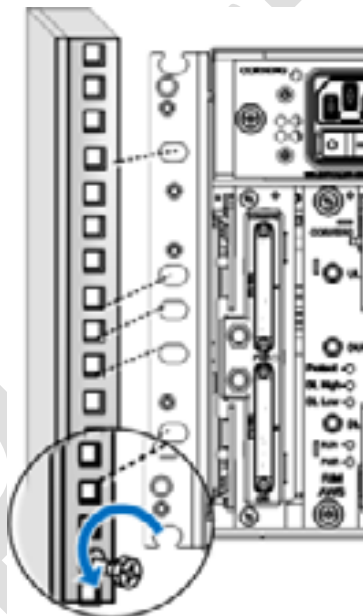

Figure 5-46. Installing Chassis in Rack
2. Referring to Figure 5-46 secure the units' rack ears to the rack frame as follows: